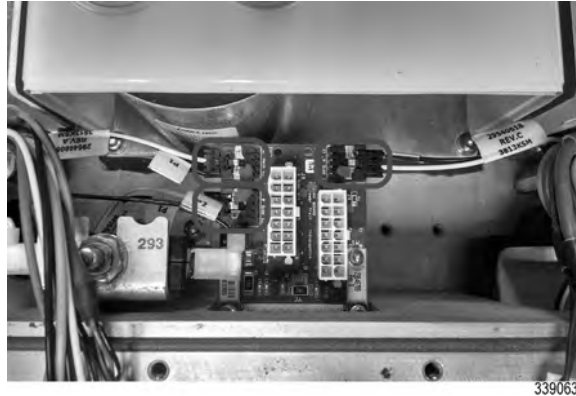

Figure 11. Three (3) HVIL Connector Installation
7. Connect the three (3) HVIL switch connectors to the appropriate header on the signal interface card (refer to Figure 11). White printed text is provided near the headers to indicate which switch goes to each header. Ensure the clips on the connector are fully seated to prevent the connectors from coming loose.